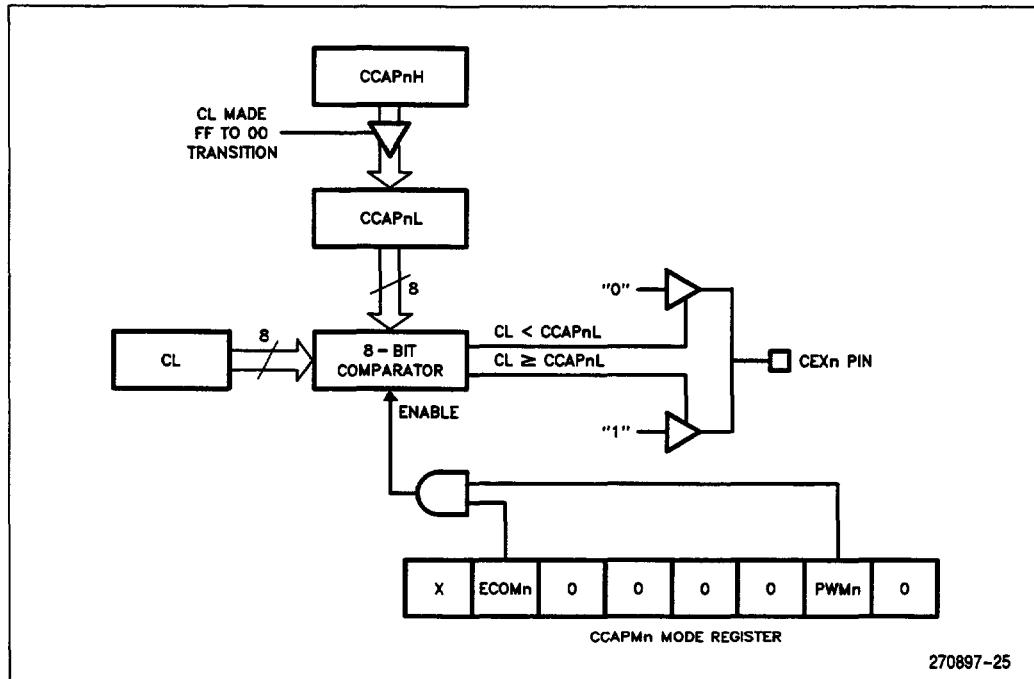

Figure 23. PCA 8-Bit PWM Mode
For this mode, the ECOMn bit and the PWMn bits in the CCAPMn mode register need to be set. The PCA generates 8-bit PWMs by comparing the low byte of the PCA timer (CL) with the low byte of the module's compare registers (CCAPnL). When  $CL < CCAPnL$  the output is low. When  $CL \geq CCAPnL$  the output is high. Refer to Figure 23.